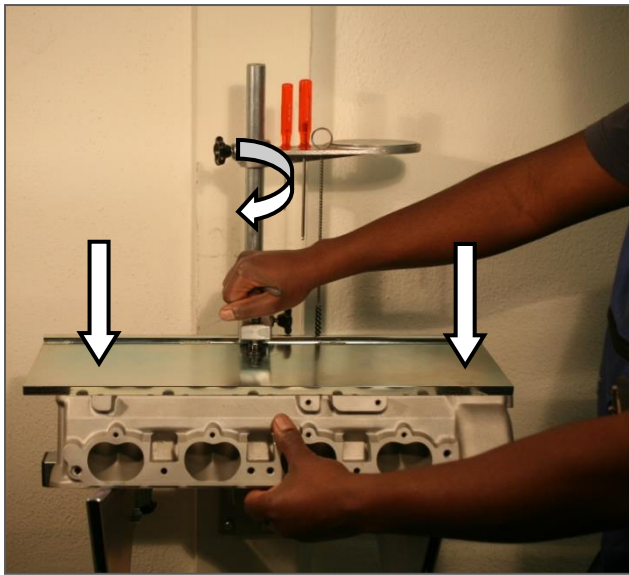

Fig. 5
1. The cylinderhead must be clamped down on the MIRA cylinderhead support AV (Fig. 5). The clamping plate should be positioned parallel and nearly even to the valve seats. For inclined valve seats mount the inclination plates SH, for further informations see pages 12, 14 and 33.